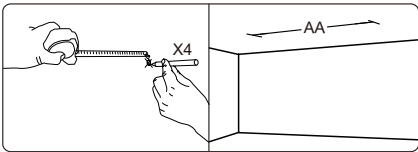

Figure 7
2. According to P distance, drill 4 holes in the ceiling with an electric drill, and put 4 pieces of $\phi 10 \times 40$ mm expansion bolts in the holes (Figure 7).